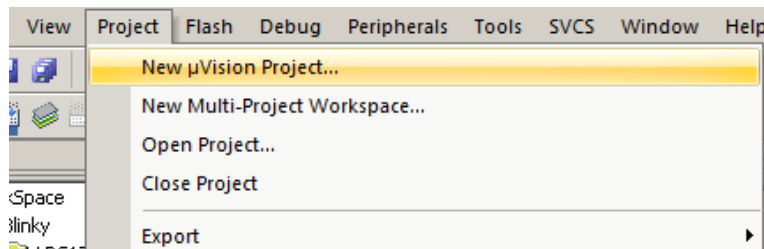

Figure 1.1: Keil IDE: Create a New Project
- Project  $\rightarrow$  New  $\mu$ Vision Project (See Figure 1.1)